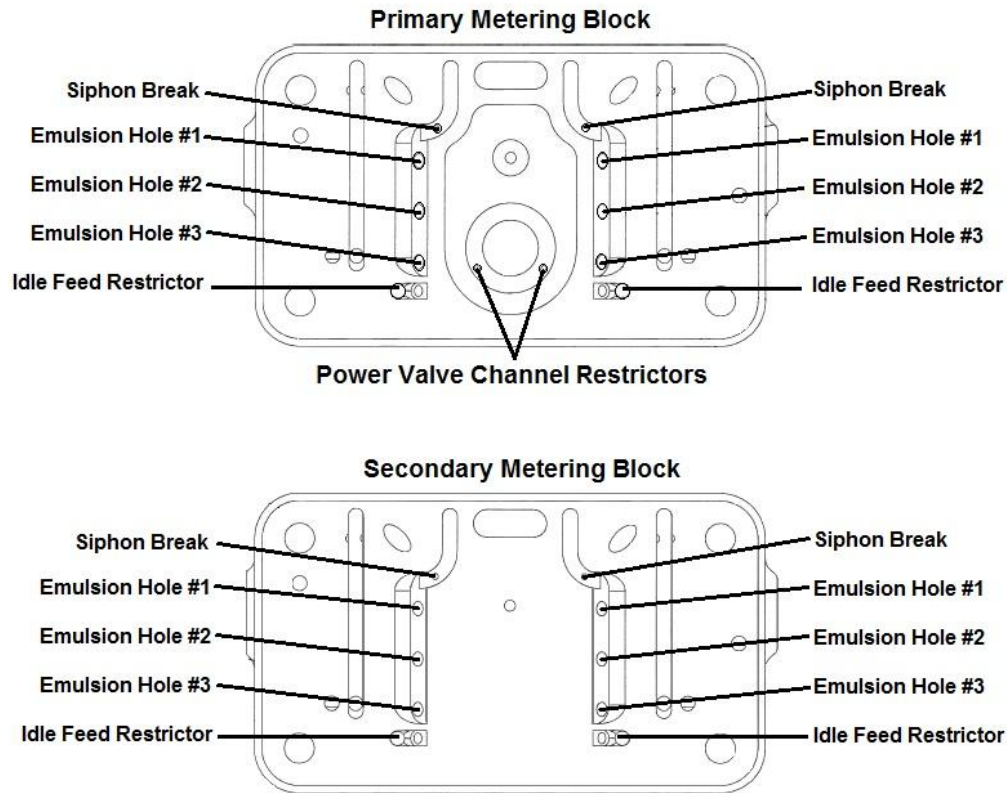

Figure 17
The idle feed restrictor (Fig. 17) controls the amount of fuel that enters the idle circuit from the main well. This orifice controls the amount of fuel available for the idle circuit. If all other tuning results in a lean or rich idle circuit, an adjustment here may be necessary. As with any fuel restrictor, the larger the hole in the restrictor, the more fuel that will be introduced into the idle circuit. Make small changes, .001" or .002", to all four restrictors and work towards your desired tuning point.
There are six (6) emulsion bleeds per metering block, three (3) for each main well (Fig. 17). These orifices play a part to control the density of the fuel in the block by metering the amount of air that is introduced into the fuel in the main well. This, in conjunction with the air bleeds in the main body, help to control the shape of the fuel curve.